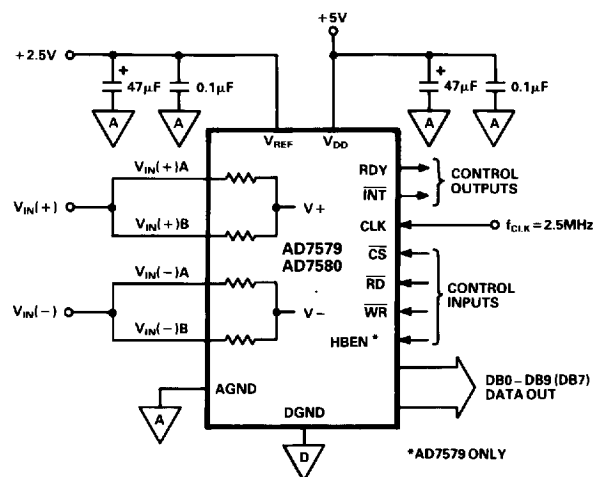

Figure 12. Unipolar 2.5V Operational Diagram
Figure 12 shows the AD7579/AD7580 connected in the standard unipolar mode. Figure 13 and Table V show the ideal input/output
Table V. Input/Output Code Table for Figure 12
*DECOUPLING CIRCUITRY AND CONTROL CIRCUITRY AS IN FIGURE 12
In many cases, users of the AD7579/AD7580 will want to measure single-ended input voltages (i.e., ground referred signals). The circuits of Figures 12, 14 and 15 can be easily adapted to accept such signals. If $V_{IN}(-)$ in Figure 12 is tied to AGND, then the analog input range is 0V to +2.5V. By connecting $V_{IN}(-)$ of Figure 14 to AGND, the analog input range becomes 0V to +5V. Figure 15 can be modified as in Figure 16 to accept input voltages in the range -2.5V to +2.5V. Each of these circuits are special cases of the Differential Input circuits and are achieved by making the negative input to the internal comparator equal to AGND.